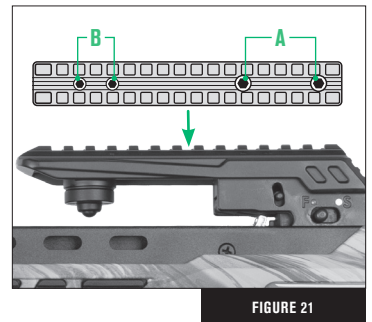

FIGURE 21
- Remove the two rear-most hex screws from the top picatinny rail, as seen in Figure 21.